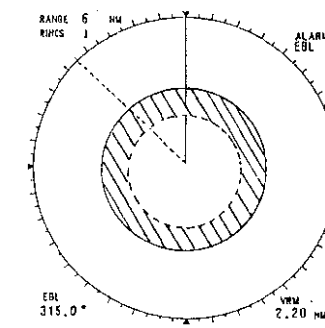

Fig.1-15
7. By observing the EBL indicator at the lower left-hand side of the screen, press the / touchpad until the EBL is positioned at 315°. See Fig.1-15.